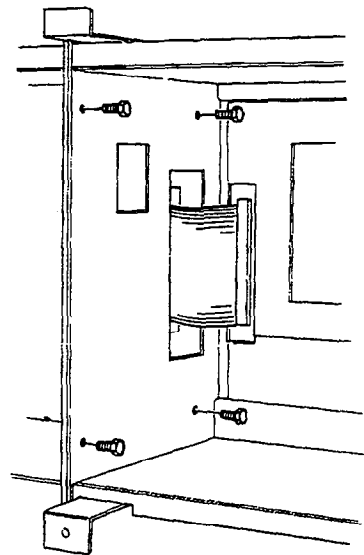

Figure 3-16 Bolting the Level II Expansion KSU to the Basic KSU
4. Bolt the Expansion KSU to the Basic KSU using the four provided bolts. Refer to Figure 3-16 - Bolting the Level II Expansion KSU to the Basic KSU.